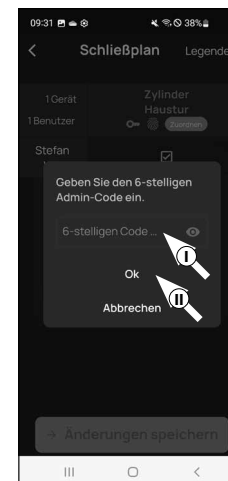

Fig. 5
- 6 Here you will be asked to verify yourself with your administrator code. Enter the code and confirm with "OK" (Fig. 5).